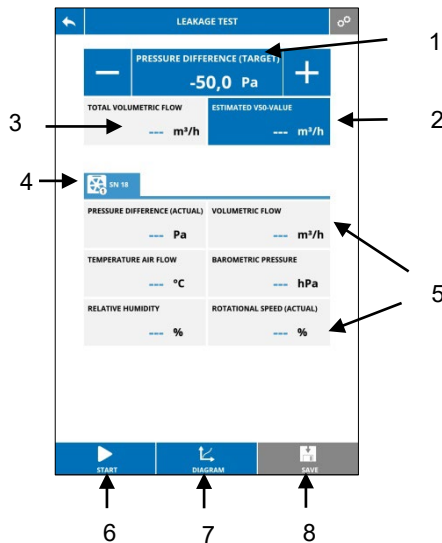

Fig. 38: Measurement view–leakage test
- To select this mode, stop measurements and tap the field “Pressure Difference (Target)” (see Fig. 38).
- In the measurement view LEAKAGE TEST (see Fig. 38: Measurement view–leakage test) go to the field ESTIMATED V50- VALUE.